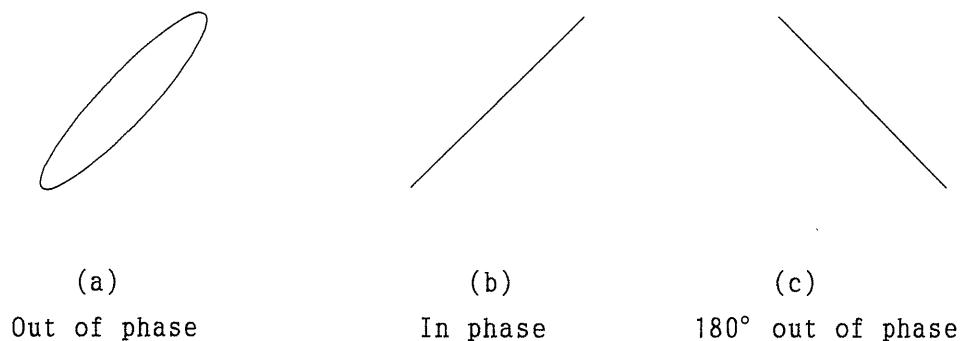

Figure 4-2
⑥ PILOT OUTPUT connector	X INPUT connector (200mV/DIV)
⑯ COMPOSITE OUTPUT connector ...	Y INPUT connector (100mV/DIV)
(2) Press ⑯ [YE] and ⑩ [SET](MONO) keys, and the output level is set to 3.00Vp-p (Monophonic modulation level is set to 100% and internal modulation oscillator frequency is set to 1kHz).
(3) Press ⑯ [YE] and ⑩ [100%](MAIN) keys, and the stereo modulation level and pilot level are set to 90% and 10% respectively.
(4) Press ⑭ **STEREO** key to get the <Stereo> screen.
(5) Press ⑩ **STEREO MOD ON** key to turn off its indicator, and turn off the stereo modulation ("0" is not displayed). Set the input sensitivity of the oscilloscope to X-INPUT=200mV/DIV and Y-INPUT=100mV/DIV, and a waveform is displayed on the oscilloscope as shown in Figure 4-2. Turn ⑯ **SCOPE PHASE** half-fixed adjuster till the waveform (b) in Figure 4-2 is obtained.
Calibration is not necessary because the pilot phase is highly stable, but if a waveform such as (a) is displayed, which means that the phase is not adjusted correctly, the adjustment in Figure 4-2 is shifted from the correct position by some degrees.